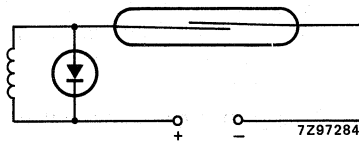

Fig. 13 DC voltage contact protection.
a) DC voltage: a diode parallel to the load or the reed switch, see Fig. 13.